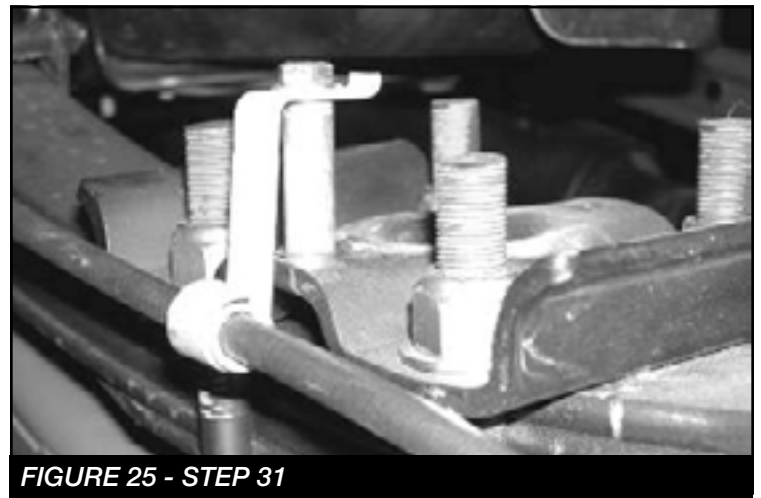

FIGURE 25 - STEP 31
31. Locate FT30166 E-Brake Cable Sleeve and attach between the spring perch and E-brake Cable bracket using the supplied 5/16"-18 x 2" bolt and split washer. **SEE FIGURE 25**